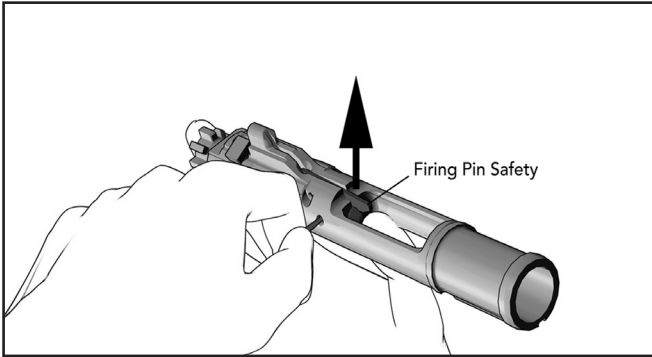
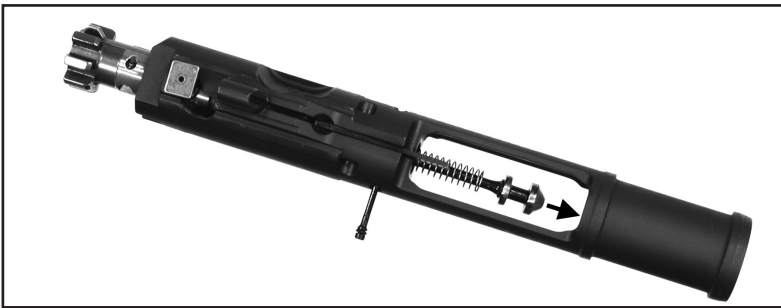

Fig. 41 – Drift out the Firing Pin Retaining Pin and lift up on the Drop Safety
Fig. 42 – Removing the Firing Pin and Firing Pin Spring from the Bolt Assembly
- b. Insert the small tip of the disassembly tool into the right hand side of the firing pin retaining pin and drift the firing pin retaining pin from right to left until the firing pin retaining pin reaches its limit of lateral travel (Fig. 41).
- d. Lift up on the spring-loaded drop safety (firing pin safety) and remove the firing pin and firing pin spring (Fig. 41 and Fig. 42).